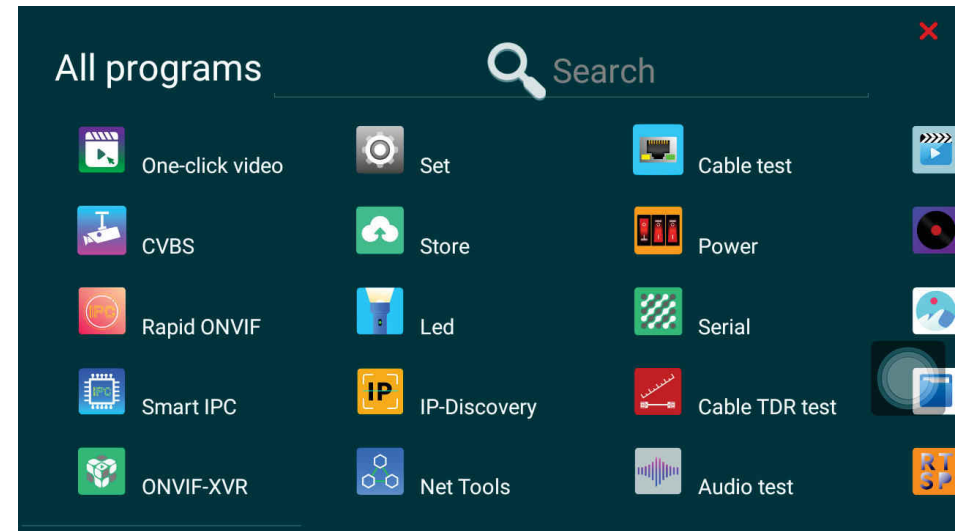

Figure 2
2) Tap the icon in the lower left corner “” to view all installed applications. Swipe left/right to view more. (See Figure 2.)